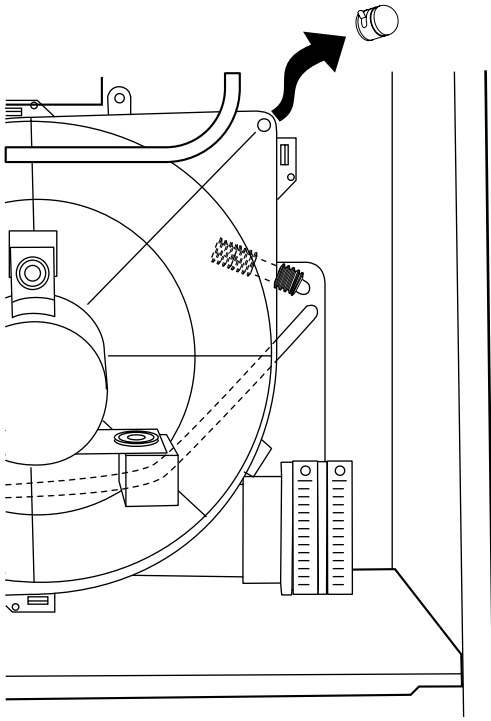

Fig. 14—Inducer Housing Drain Tube
3. Disconnect cap from unused drain tap on inducer housing. (See Fig. 14.)